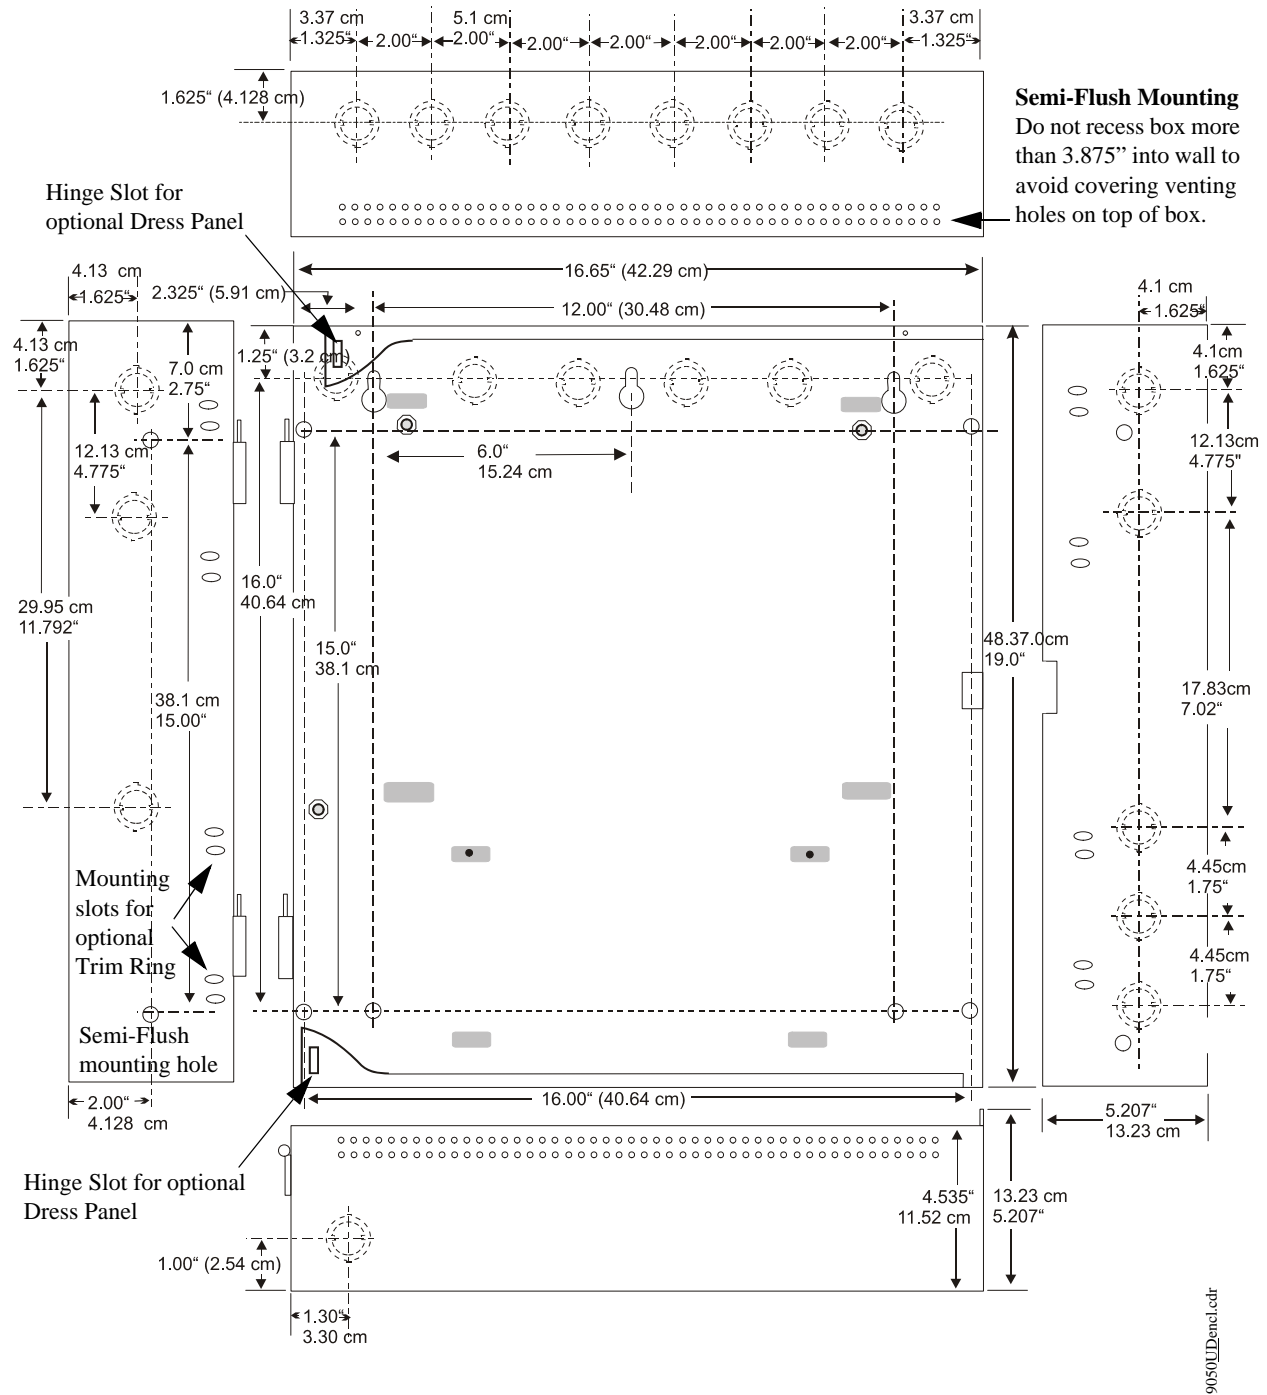

Figure 2.2 Cabinet Dimensions
- ✓ Mark and predrill hole in the wall for the center top keyhole mounting bolt using the dimensions illustrated in Figure 2.2 on page 23